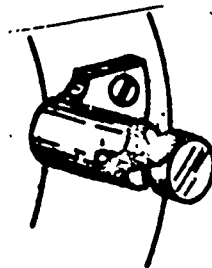

Figure 1. Ring to Disc Lock Pin.
- a. Engage the ring to disc lock pin to lock the ring and disc together. (See figure 1.)